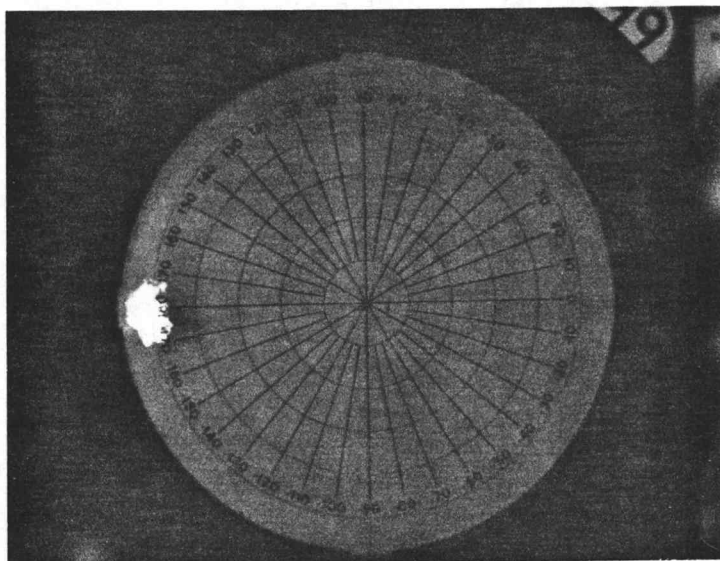

Fig. 1
- A. Connect short to port S11. Turn ref plane to get the fusse display to group on the left side of the screen of the 8418A. See fig. 1